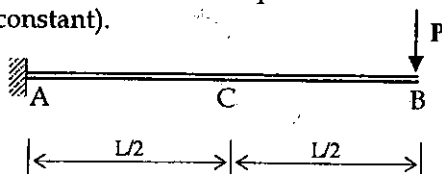

Fig. 1(a)
- a.) Using Moment Area Method, find the vertical displacement at mid span C of the cantilever beam shown in Fig. 1(a). ($EI = \text{constant}$).